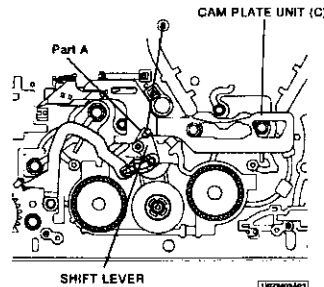

Fig. 2-34-3
2 Install the CAM PLATE UNIT (C) shown in Fig. 2-34-3 so that the pin (a) of it enters the part A of the SHIFT LEVER.